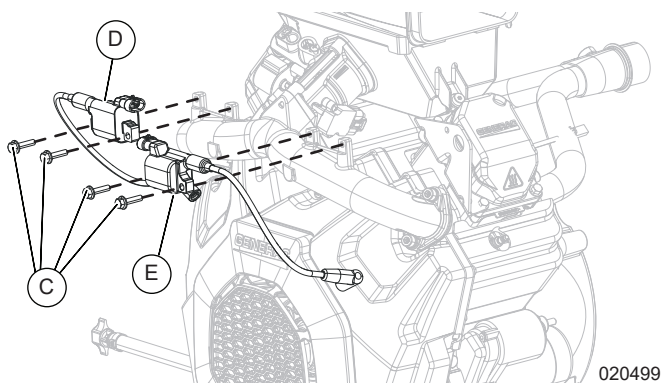

Figure 6-2. Remove Ignition Coils
2. See Figure 6-2. Remove four fasteners (C) and the ignition coils (D, E) from mounting position on intake manifold.